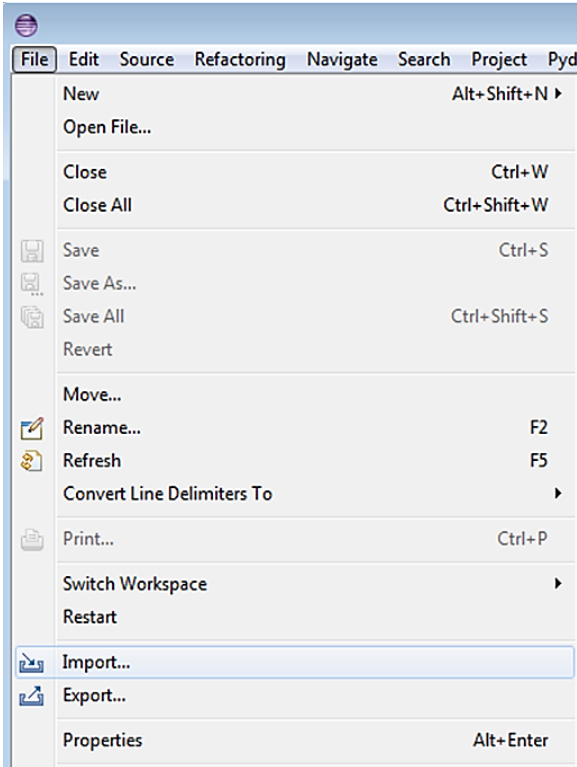

Figure 37: Checking Out Transactional Network with Eclipse
- Select File, then import as shown in Figure 37